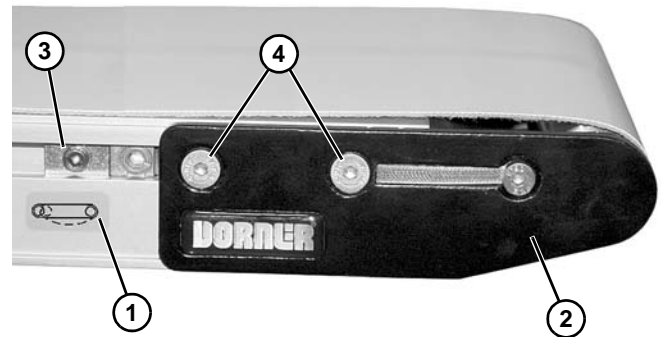

Figure 57
- On tension end of the conveyor, identified with  a label (**Figure 57, item 1**), push in head plate assembly (**Figure 57, item 2**):
- On both sides of conveyor, loosen and move cam tracking assemblies (**Figure 57, item 3**) (if equipped) away from head plates.
- Loosen fastening screws (**Figure 57, item 4**) and push head plate assembly inward.